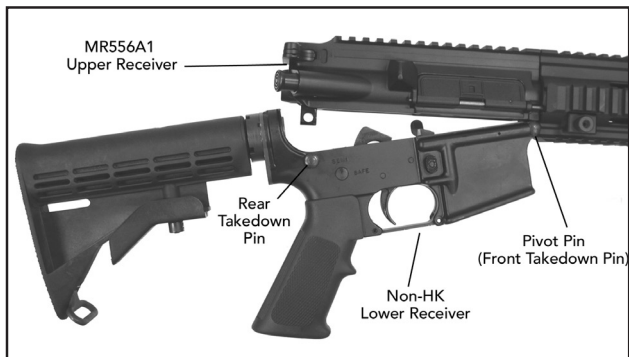

Fig. 98– Installing Front Takedown Pin
3) Mount the lower receiver to the upper receiver. Using finger pressure, press the front pivot pin from right to left so it captures and secures the upper receiver (Fig. 98).